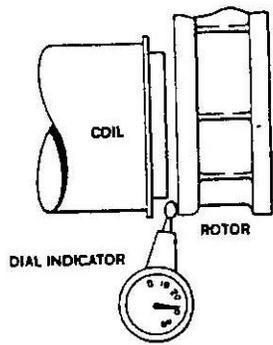

Figure 3
Step 2 Dial Pointer to "0" on dial after stylus is place against rotor's inside face as shown in Figure 3.